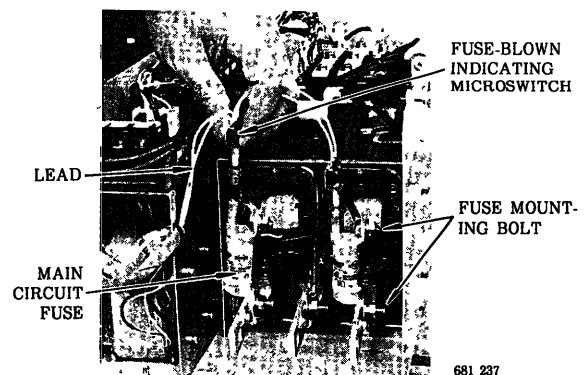

Fig. 22 Main Circuit Fuse (230 V, 25 A)
1. Remove the fuse blown indicating microswitch with the leads by pulling upward. (Fig. 22)